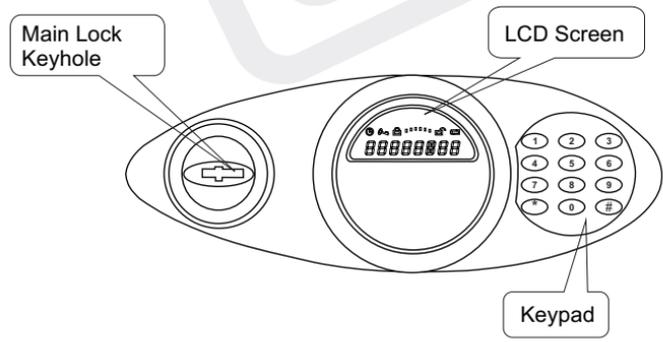
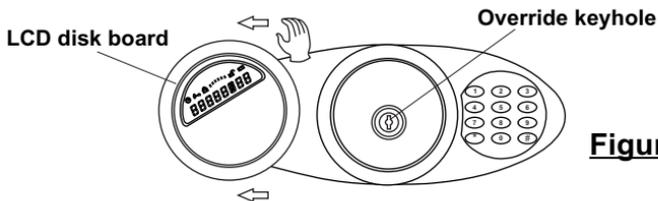

Figure 4 Panel
Figure 6
- Turn the LCD mounting disc clockwise and remove it from the panel (Figure 6, P.8 in User's Manual). Locate the override keyhole behind the disc. Insert the override key (Figure 3, P.5 in User's Manual) into its keyhole and turn it clockwise to the end, then insert the main key into the main lock keyhole (Figure 4, P.5 in User's Manual) and turn it clockwise to the end to open the door.
Insert the main key into the main lock keyhole (See Figure 3 and Figure 4) in the panel.